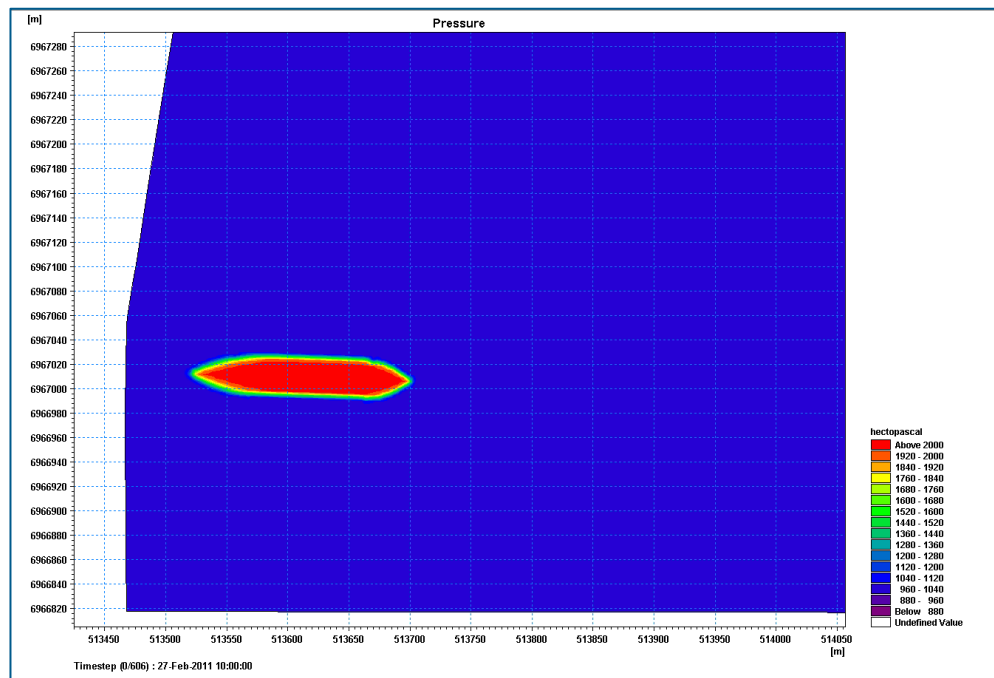

Figure 3.7 Vessel Pressure field dfsu - Pressure item
22. Check that the pressure field generated has three items (Wind X, Wind Y, Pressure). The 2 Wind component items will be 0, whereas the Pressure item will show the vessel moving through the pressure field as seen in Figure 3.7 below. This dfsu file will be used in the ensuing HD simulation.